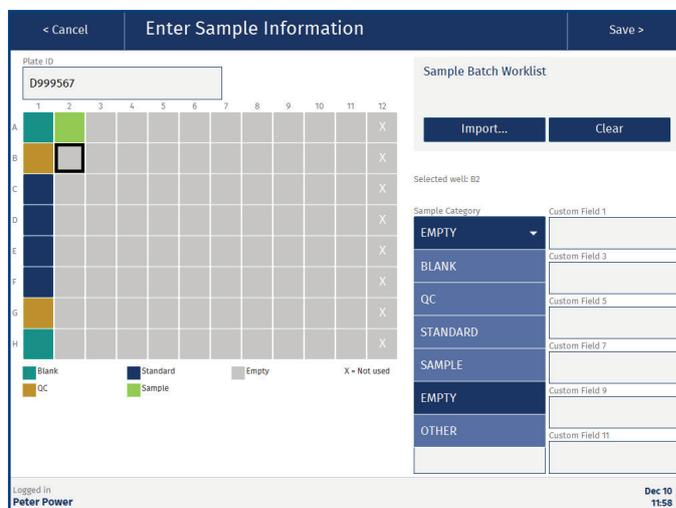

Figure 72. The Enter Sample Information view. Wells or columns that are not enabled in the extraction media are marked with an X (see column 12).
It is possible to enter custom information for the individual samples in the **Enter Sample Information** view (see Figure 72) during the setup of a run. There are two ways to do this, manually or by importing a sample batch worklist.
2. Select the sample category from the drop-down list; see Figure 72. Each category has its own color; see the color legend below the plate/rack.
4. Enter the sample plate/rack ID in the **Plate ID** text box in the **Enter Sample Information** view; see Figure 72.
A sample batch worklist can be used to import custom information for individual samples in the **Enter Sample Information** view; see Figure 72.